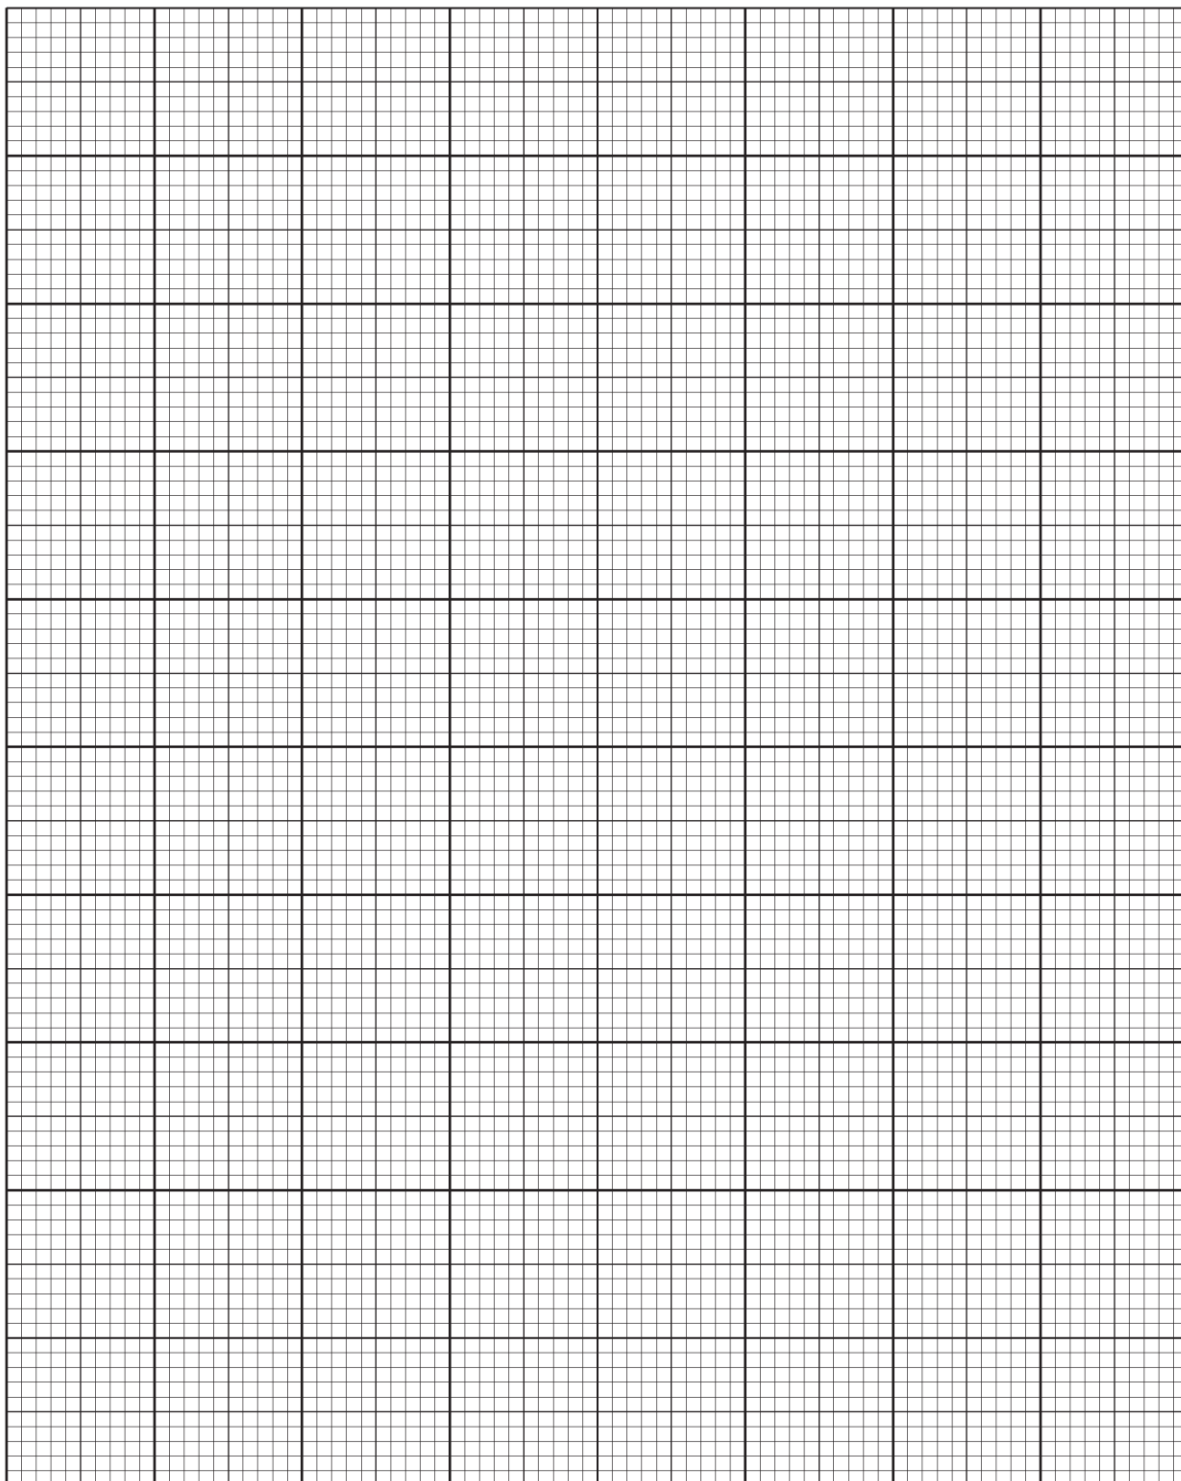

Fig 2.1
- (b) (i)** Plot a graph of $\lg(1/t)$ on the y-axis against temperature on the x-axis on the grid in Fig. 2.1.